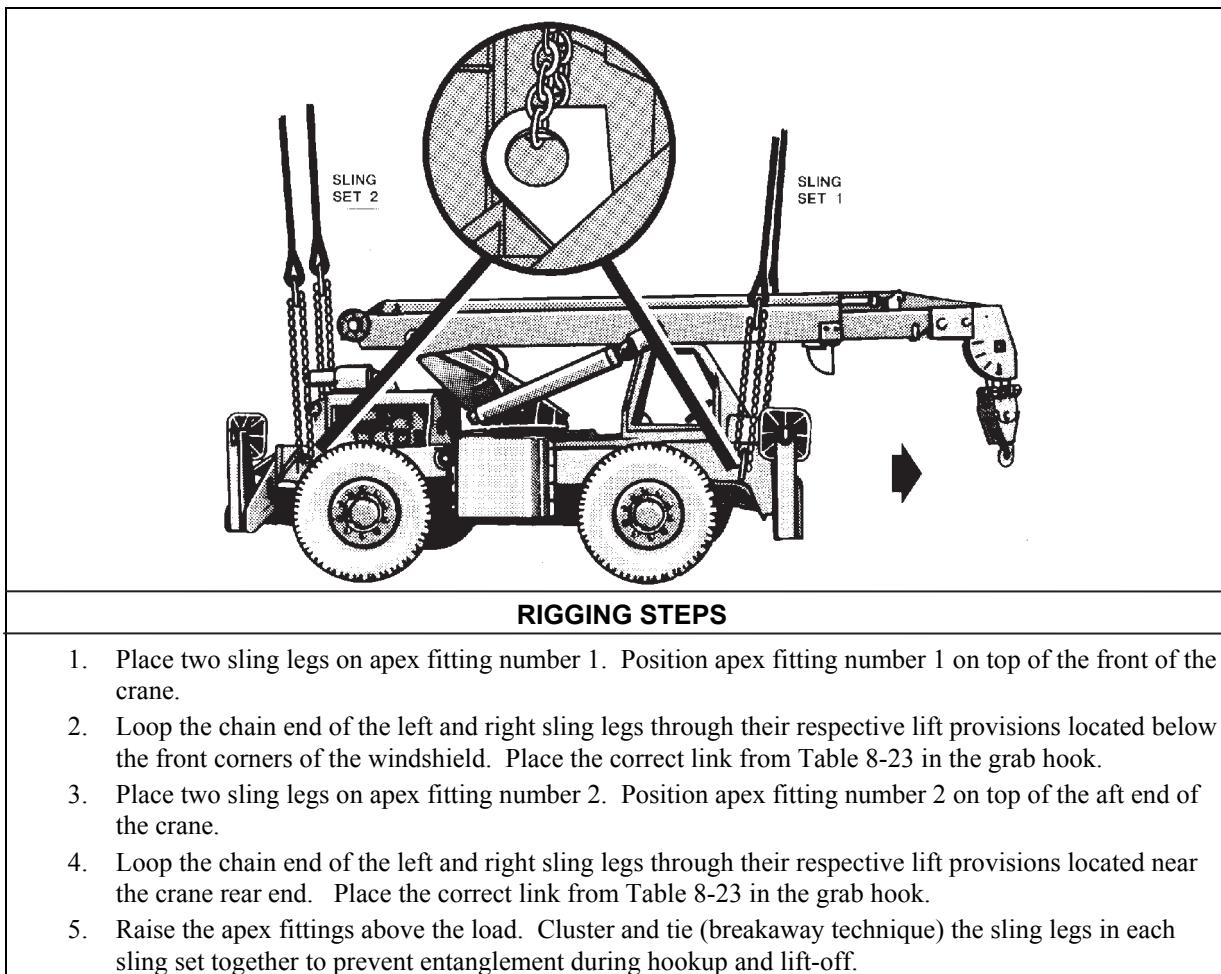

Figure 8-23. SP-7 Wheel-Mounted Crane
- **Rigging.** Rig the load according to the steps in Figure 8-23.